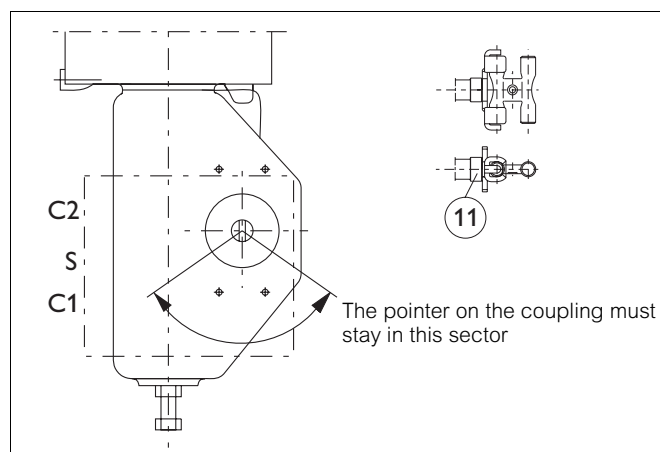

Fig. 4 Mounting on Metso actuator with VDI/VDE mounting face
- ❑ Mount the H-shaped coupling (47) to the shaft. Apply the thread-locking compound to the screw (48) and tighten firmly.
- ❑ Remove the protective plastic plugs from pneumatic connections C2, S and C1. Leave the metal plugs (54) in the unused connections at the bottom of the controller.
- ❑ **BJ and other single acting actuators:** install a metal plug (53) with sealant to the C1 connection.
- ❑ Set the direction arrow of the actuator in the direction of the valve closure member and attach the ear (2) to the indicator cover in the position shown in Section 11.2. Secure the screw of the ear using e.g. Loctite and tighten firmly.
- ❑ Attach the bracket (1) to the ND9300P
- ❑ Attach the bracket (1) to the actuator. The shaft coupling of the ND9300P must fit into the ear (2) so that the pointer is located in the position shown in Fig. 4.